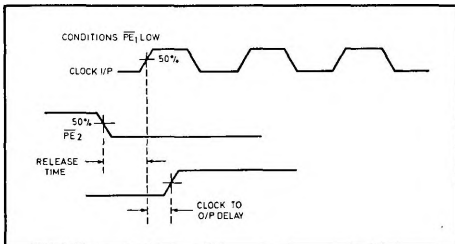

Fig. 4 Release timing diagram
- Release time is defined as the minimum time that can elapse between a H $\rightarrow$ L transition of a control input and the next L $\rightarrow$ H clock pulse to ensure that the  $\bar{z}$ 11 mode is forced by that clock pulse (see Fig. 4).